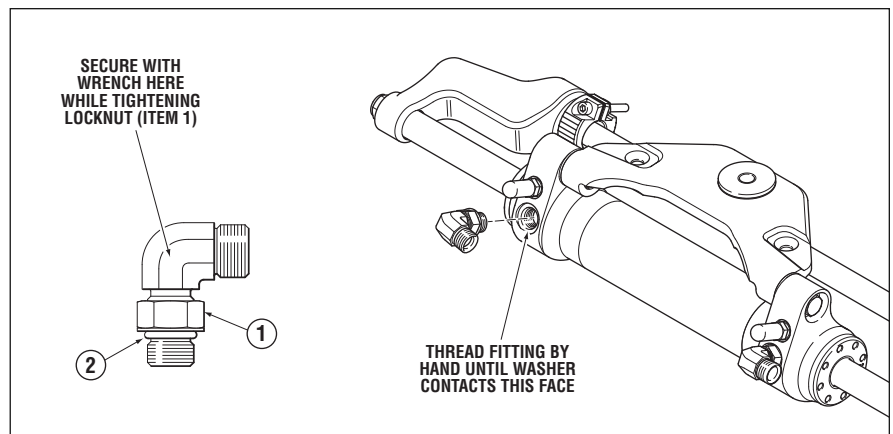

Figure 14.
1. Back off lock nut (item 1, Figure 14), counter-clockwise, until it stops.
2. Thread fitting into cylinder body until fitting washer (item 2, Figure 14) contacts the face of the cylinder port. Tighten hand tight, **DO NOT TORQUE FITTING AT THIS TIME.**
4. While holding fitting with a wrench, tighten the locknut (item 1, Figure 14) and torque to 40–43 ft-lb.